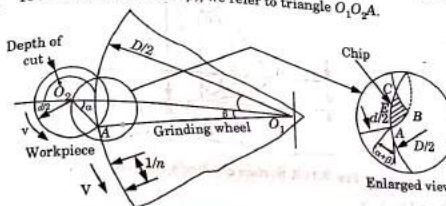

Fig. 3.14.1. External cylindrical grinding operation.
1. An external cylindrical grinding operation is shown in Fig. 3.14.1.
3. During grinding, an abrasive grain engages with the workpiece at the point C. This grain cuts into the workpiece, till the point A shifts to point B. This result in the formation of chip 'CEAB' shown in Fig. 3.14.1 by the shaded portion.
4. It can be seen from the Fig. 3.14.1, that the maximum chip thickness is 'EB'.